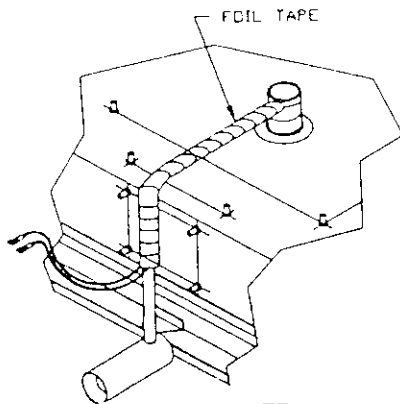

Figure 77
7. Position the heater wires at front of tube and wrap foil tape around heater, tube, and suction fitting overlapping the tape. (See Figure 77.)